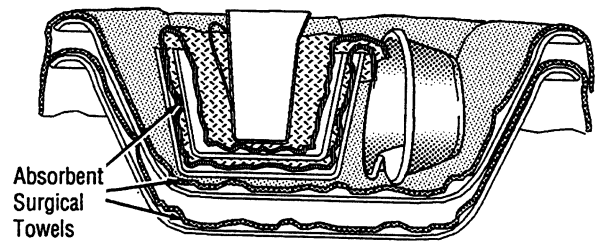

Figure 11.
1. A basin set should not exceed seven (7) pounds (primarily to limit condensation from the solid metal surfaces).
2. All nested utensils should be separated or “wicked” using absorbent surgical towels. This helps to separate surfaces for steam contact and evacuation for drying (Figure 11).